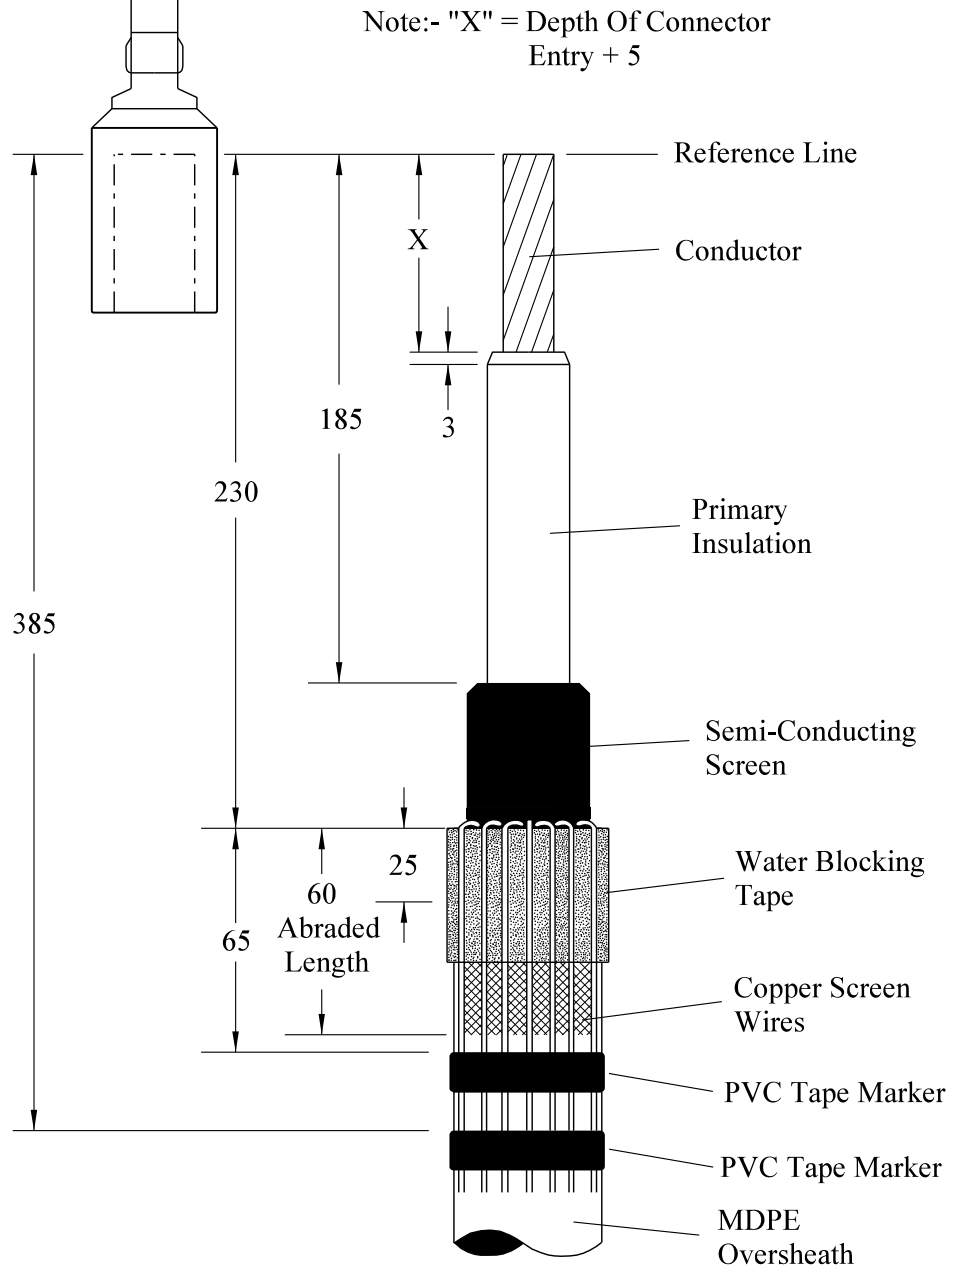

Fig 1
9. Remove oversheaths and bedding tapes — Fig 1.	--
10. Abrade oversheaths — Fig 1.	--
11. Apply a turn of mastic around oversheath — Fig 1.
14. Place a PVC tape marker 385mm from the reference point onto the copper screen wires — Fig 1.	--